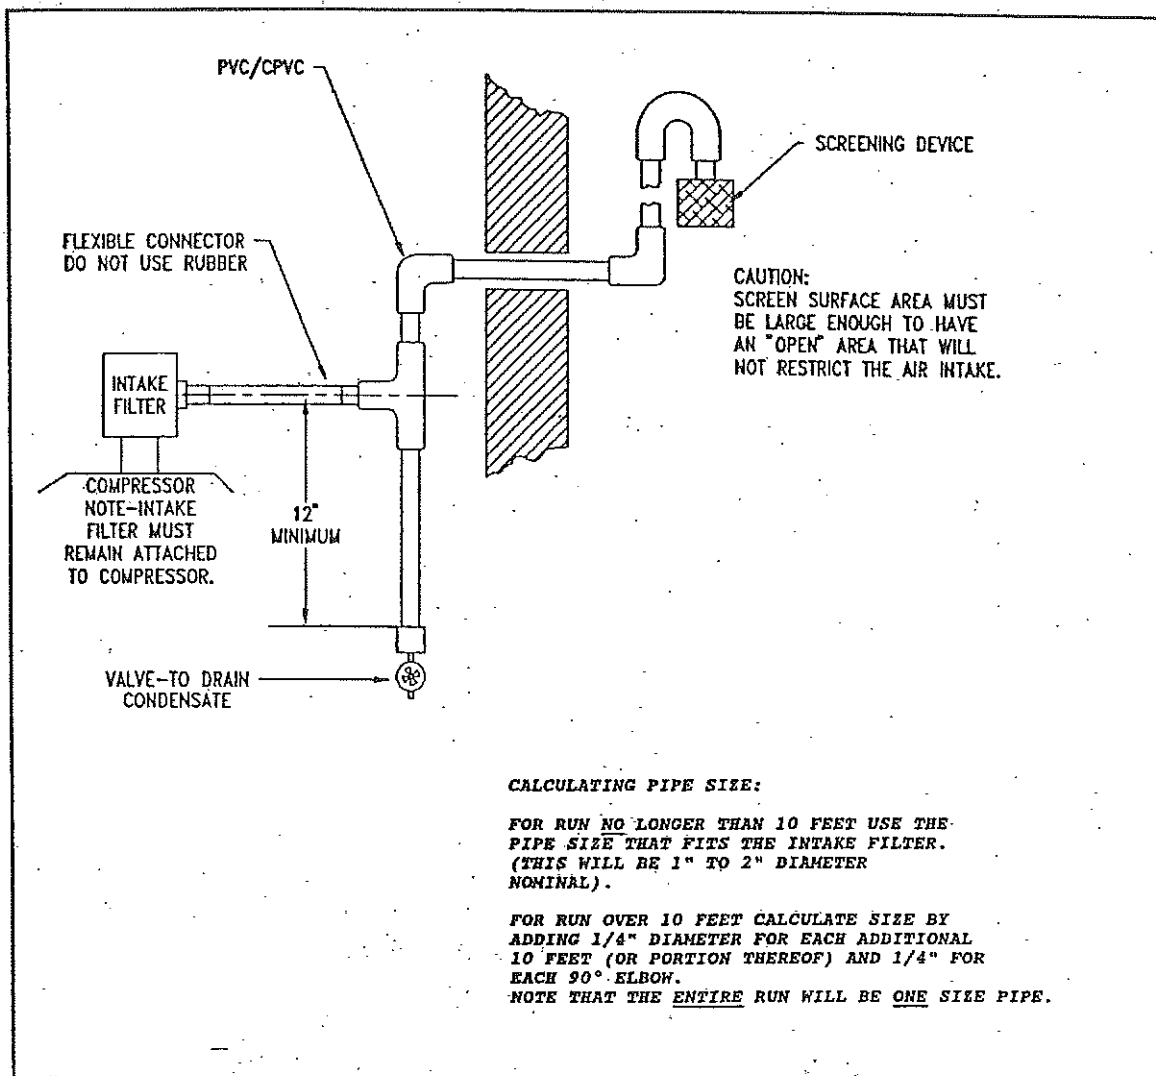

FIGURE 3-1 REMOTE AIR INTAKE INSTALLATION GUIDE LINES
- e. Install the remainder of the intake system using the guidance found in Figure 3-1.